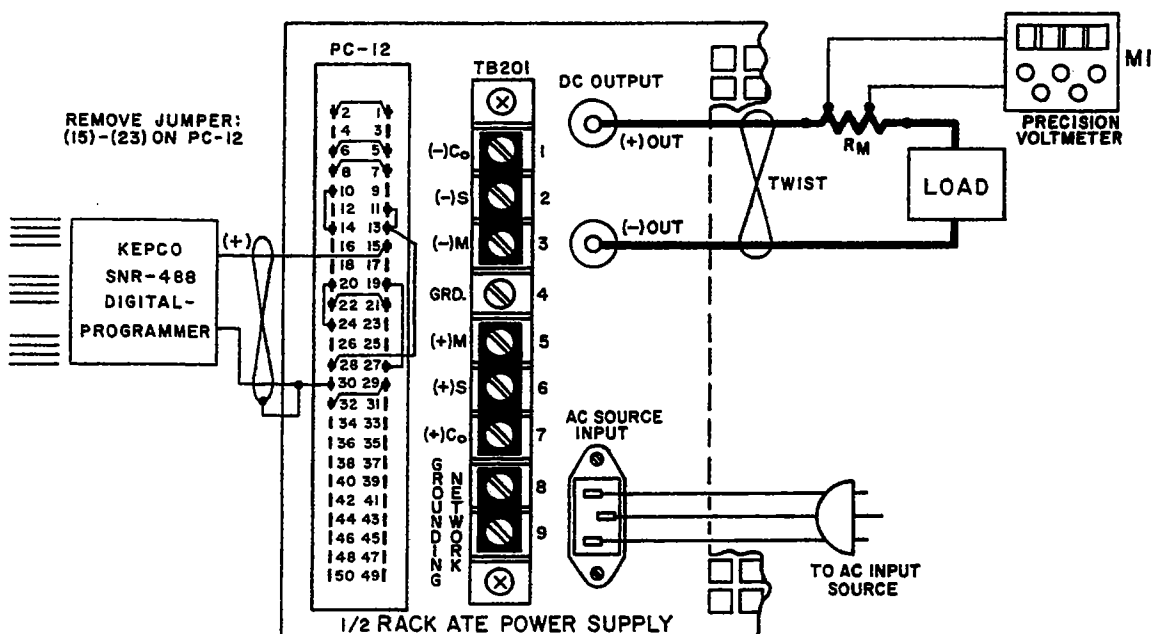

FIG. 3-11 CONNECTIONS FOR OUTPUT CURRENT CONTROL WITH A 0-1 VOLT CONTROL SIGNAL (KEPCO SN-488 DIGITAL PROGRAMMER).
3-58 GENERAL. The ATE output current, controlled by a front panel CURRENT CONTROL rheostat in the local control mode, can be remotely controlled by disconnecting the 15V bias from the non-inverting input of the EXT. CURRENT COMPARISON AMPL at the REAR PROGRAMMING CONNECTOR, and applying a 0 to 1 volt external control signal with reference to the ATE COMMON terminal. Since the non-inverting input of the EXT. CURRENT COMPARISON AMPL is used, only the small amplifier bias current must be supplied by the external control source. IN ALL CURRENT PROGRAMMING APPLICATIONS, THE FRONT PANEL CURRENT CONTROL SETTING OF THE ATE ACTS AS A "BACK-UP" CURRENT LIMIT AND MUST BE SET SLIGHTLY HIGHER THAN THE REQUIRED MAXIMUM OUTPUT CURRENT. An application, demonstrating this control method is described in PAR. 3-60 and illustrated in FIG. 3-11.
- 1) Connect the EXT. CONTROL VOLTAGE, (Model SN-488 Digital Programmer), the LOAD and the PRECISION VOLTMETER (M1) to the ATE as shown in FIG. 3-11.
Note: The output current value can be measured directly by means of a suitable ammeter in series with the load or, as indicated in FIG. 3-11, indirectly by means of the precision voltmeter (M1) across a current measuring resistor ( $R_M$ ).  $R_M$  should be selected such that a convenient range on the precision voltmeter can be used, e.g., for a 10 ampere output current, use a 0.1 ohm, resistor to produce a one volt full scale reading. If an electronic voltmeter is used, it should be battery-operated to avoid ground loops.